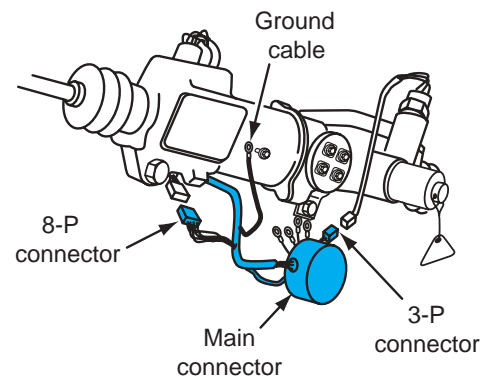

Figure 13-7 Removing the ground cable connector and all wiring harness connectors on the rear steering actuator.
8. Remove the ground cable connector and all wiring harness connectors on the rear steering actuator (Figure 13-7).